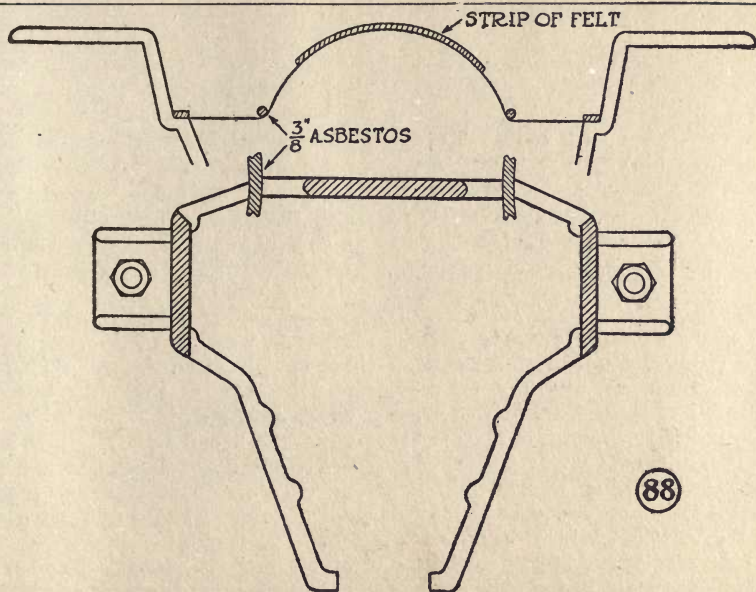

Fig. 88—Double packing at certain points between the transmission cover and the crankcase prevents oil leakage at these points
10.—The gaskets between the transmission cover and the crankcase require a little more care and there are certain points as shown in Fig. 88 that require